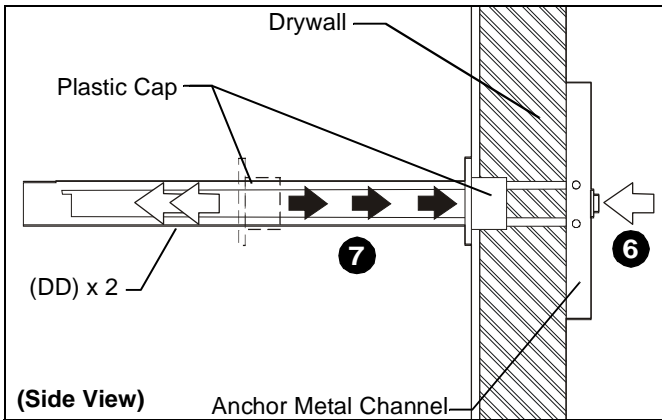

Figure 15
6. Holding plastic straps on drywall anchor (DD), pull anchor away from wall until channel rests flush behind wall. (See Figure 15)
7. Slide plastic cap on anchor (DD) towards wall until flange of cap is flush with wall. (See Figure 15)